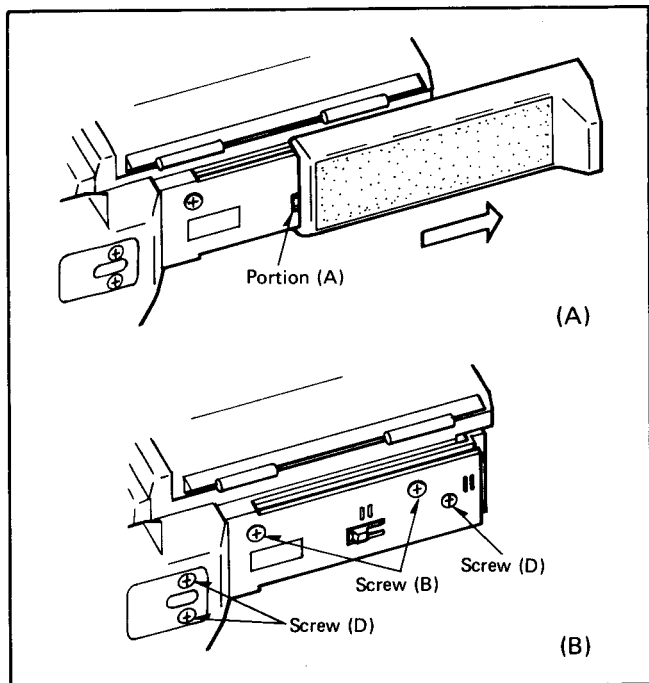

Fig. 1
Then, press the portion (A) and move the shoulder slide to the rear as shown in Fig. 1-A.
Unscrew 2 screws (B) (see Fig. 1-B).
4. Unscrew 3 screws (D) and remove the shoulder assembly from the camera head (see Fig. 1-B).
2. Aim the camera at the infrared ray position chart and observe the picture on the TV monitor (B). The center point of the infrared ray position chart must be located on the center of the TV monitor screen.
3. Then, aim the infrared rays detect camera at the infrared ray position chart and observe the picture on the TV monitor (A).
4. And adjust the LED horizontal position and LED vertical position so that the infrared ray is hit the circle ( $\phi 110$ ) as shown in fig. 1-(b), TV monitor (A). (Irradiated position is less than the circle ( $\phi 110$ )).